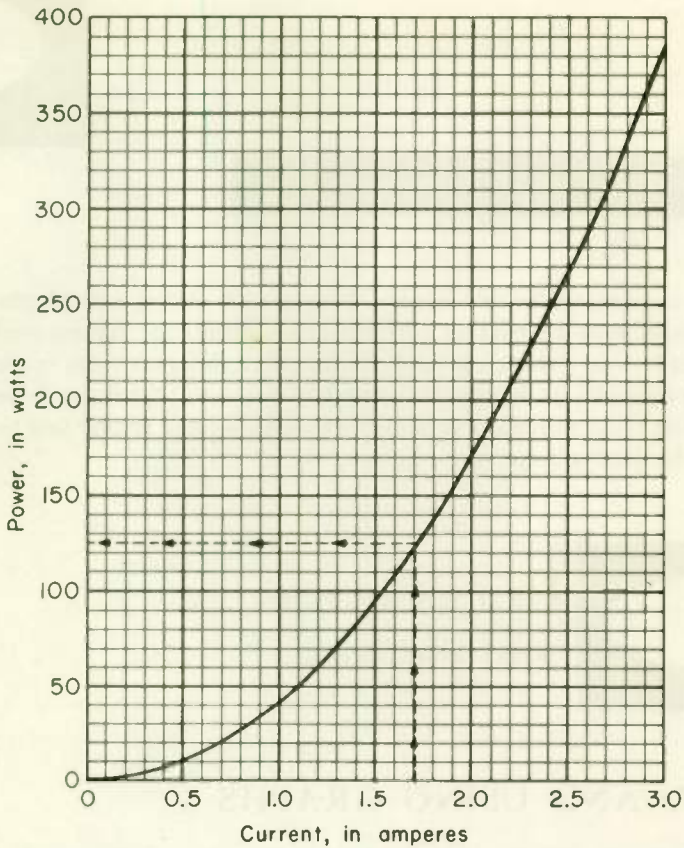
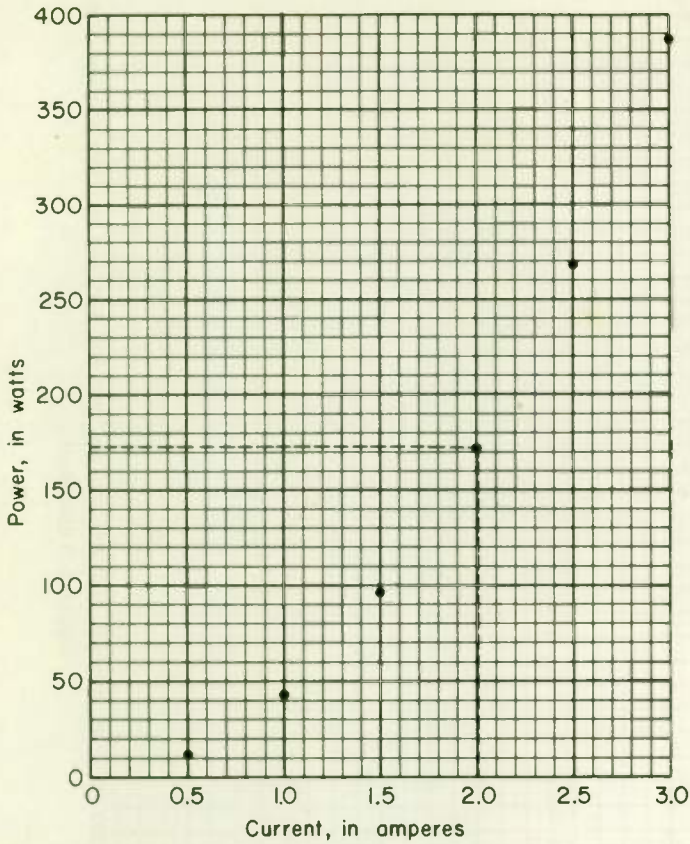

Fig. 1 Curve showing variation of power with current in an antenna with 43Ω resistance.
Fig. 2 Plotting points for making the graph of Fig. 1.
- 1 HOW TO READ AND PLOT A CURVE . . . Dick made the graph of Fig. 1 so that he can quickly tell what the power input to his antenna is for any reading of the antenna r-f ammeter. For example, if the antenna ammeter reads 1.7 A, Dick moves a pencil point vertically up from 1.7 on the base line of the graph until he comes to the curve. Then he moves his pencil point horizontally to the left edge of the graph, where he reads approximately 125. The dashed lines show the path of Dick's pencil. Thus the graph shows that, when the antenna current is 1.7 A, the power to the antenna is approximately 125 W.
Dick next plotted the information in his table as points on a graph, as shown in Fig. 2, one point for each current-power pair. For example, his table shows that for a current of 2.0 A the power is 172 W, so Dick plotted a point where a vertical line up from 2 A meets a horizontal line from
172 W. The dashed lines in Fig. 2 show how the proper position for this point was located. After Dick plotted all the points for his table, he drew a smooth curve through them. He then had his graph completed, as in Fig. 1.
1. Use the graph of Fig. 1 to complete the following table: